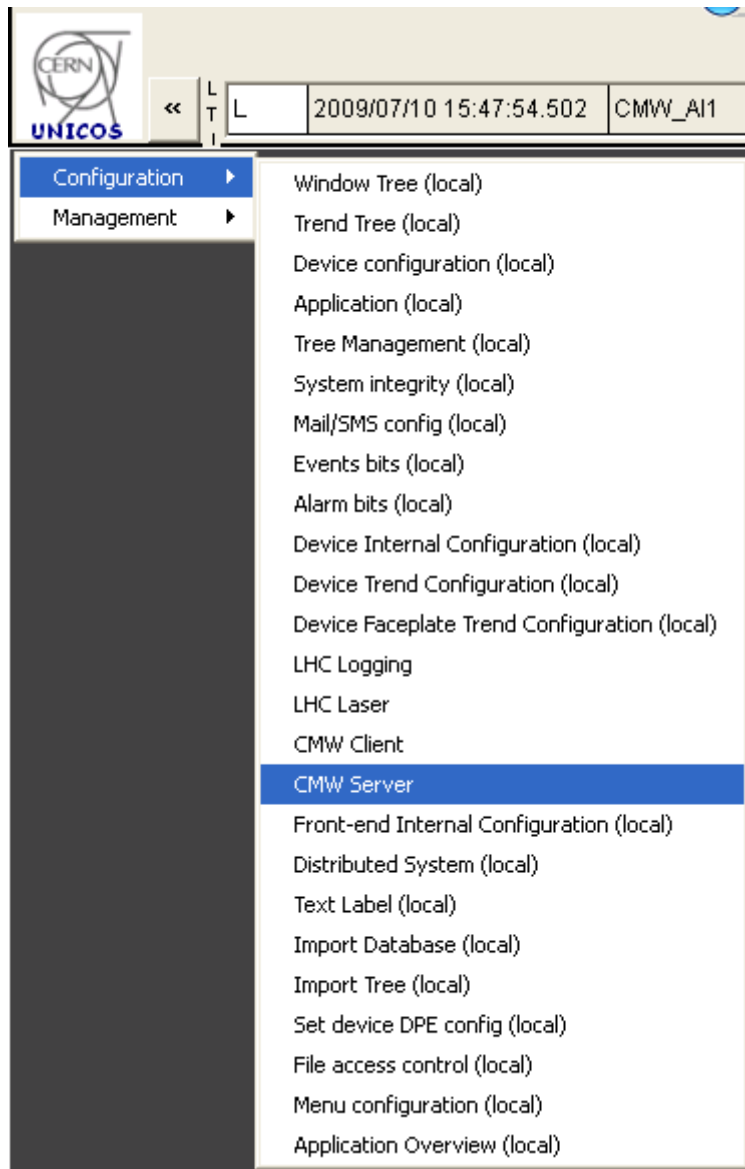
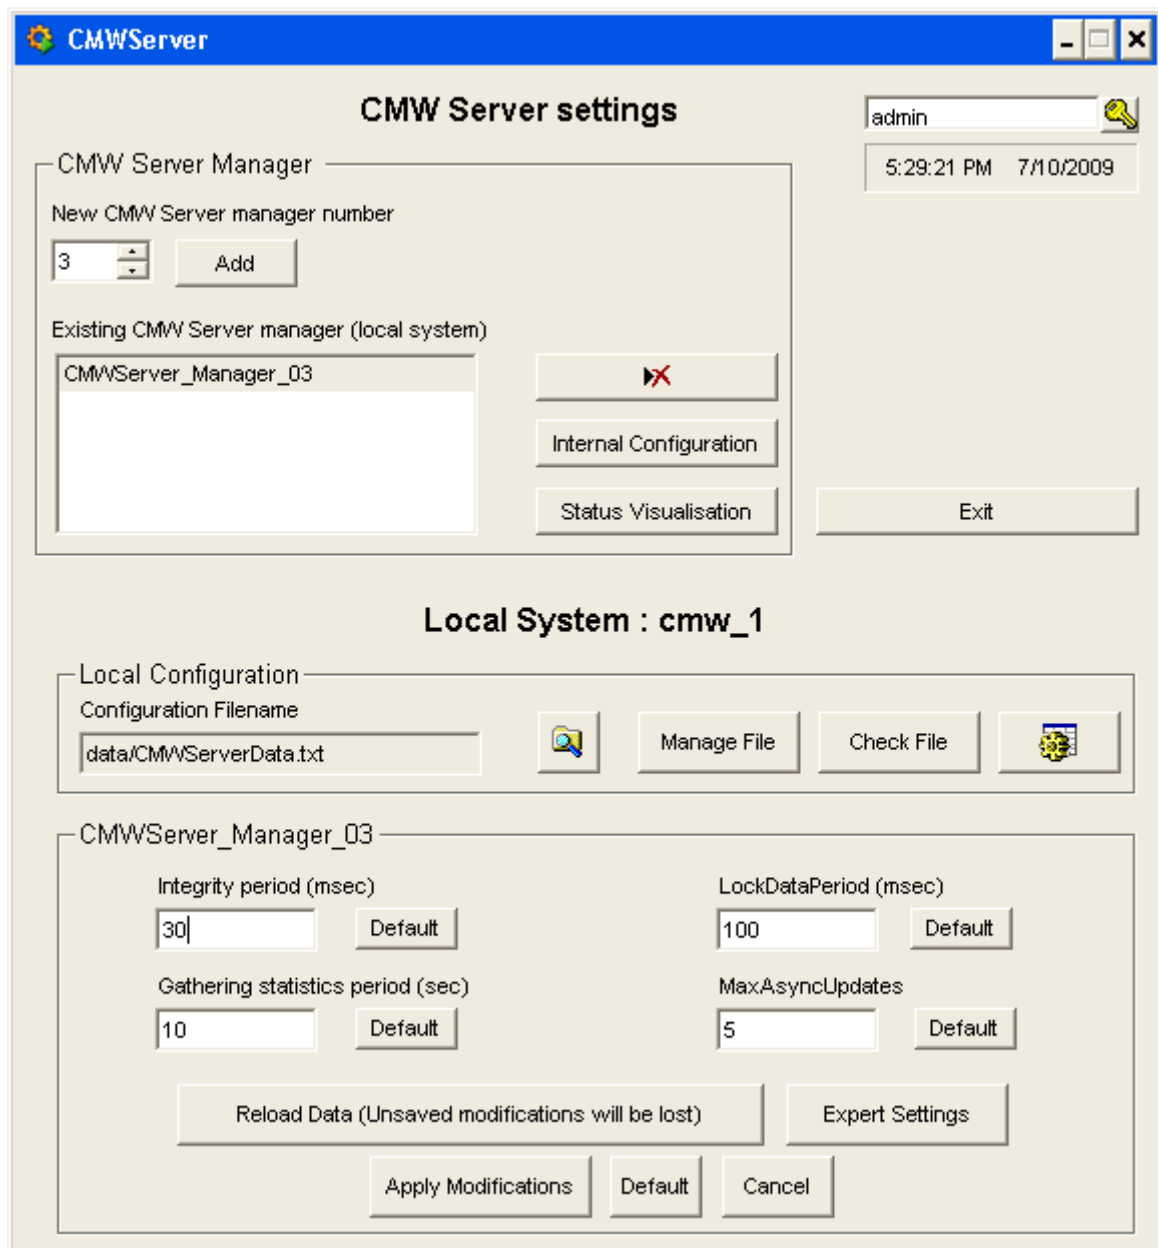

Figure 11: open CMW Server configuration.
Figure 12: CMW Server configuration.
- create the CMWServer config (Figure 11 and Figure 12) for manager 3, set the configuration file name to data/CMWServerData.txt
- In the CMWServer configuration (Figure 11 and Figure 12), open Status Visualisation, select the CMWServer (double click), right click and choose 'Start PVSS00CMWServer –num 3' (unblock if necessary), right click and choose 'Commands' and click on 'Start'. Close and reopen the Status Visualisation, the status of the CMW Server should be green as in Figure 19. The PVSS console log looks like in Figure 20.